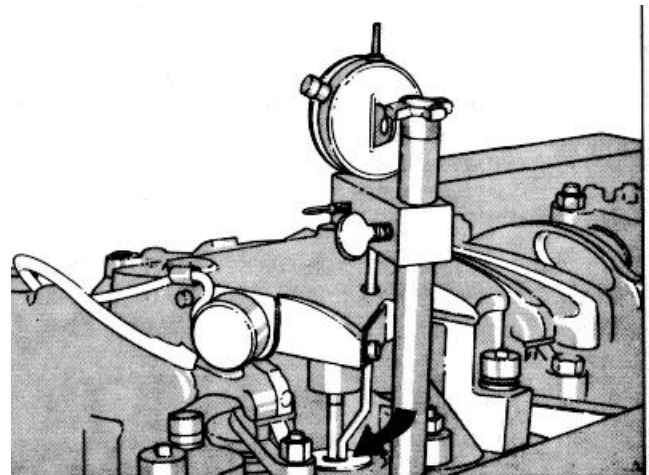

Fig 2-53, (om10611) Dial indicator in place-extension contact with plunger.
**Note:** The injector and valves on any one (1) cylinder can't not be set at the same valve set position. Example: If the rocker levers on No. 3 cylinder are free (valves closed) the injector plunger travel on No. 6 cylinder is to be adjusted. Any valve set position may be used as a starting point. See Table 2-17.
2. Install 3375004 Dial Indicator Assembly to the rocker housing, extension (3375005) must go through the opening in the Jacobs Brake housing and contact the injector plunger top, Fig. 2-53.
3. Screw the injector lever adjusting screw down until the plunger is bottomed in the cup, back off approximately 1/2 turn then bottom again, set the dial indicator at zero (0).